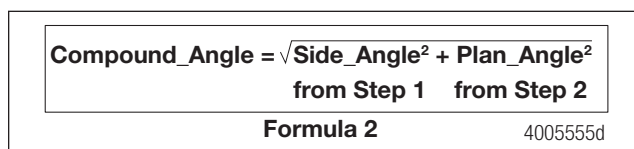

Figure 14.36
- Calculate the compound universal joint angles using Formula 2. Figure 14.36.